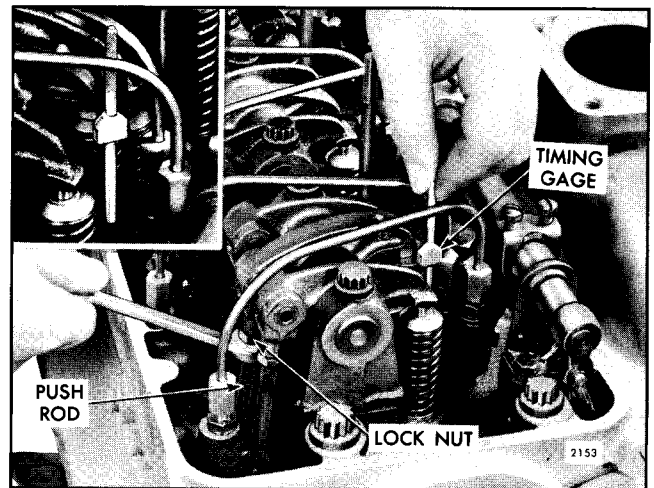

Fig. 1 - Timing Fuel Injector
3. Place the small end of the injector timing gage in the hole provided in the top of the injector body with the flat of the gage toward the injector follower (Fig. 1). Refer to Tables 1 or 2 for the correct timing gage (for vehicle engines, refer to Section 14).